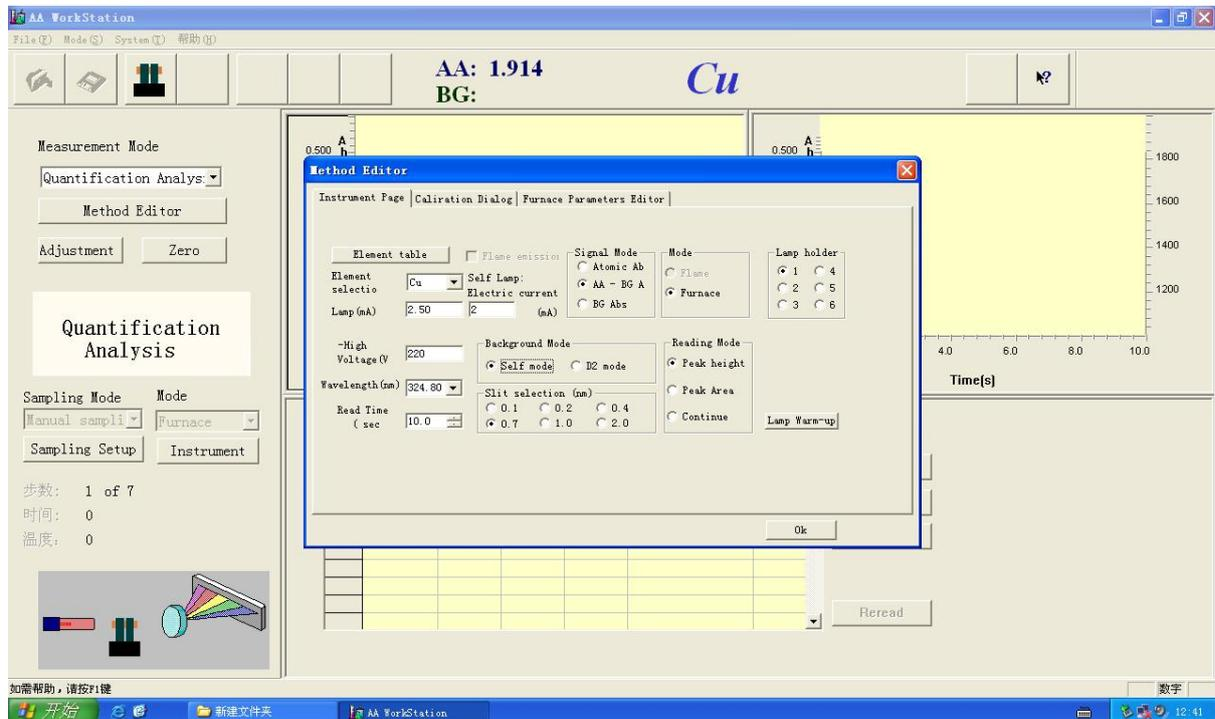

Figure 4-23
2) Select the "Self mode" on "Background Mode", the text box of "D2 lamp electric current" change into "Self electric current", input the current value into the text box (Figure 4-23). The value is between 0-14mA, the default value is 2mA